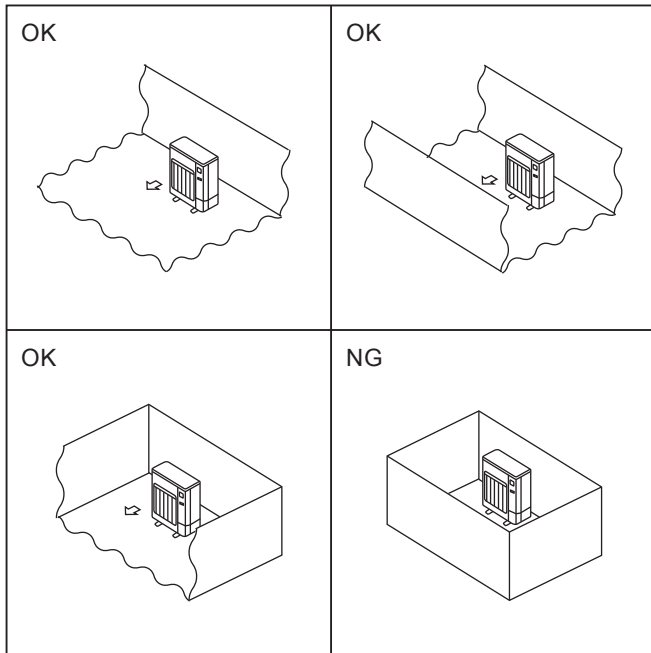

Fig. 1-2
- ⓪ Install outdoor units in a place where at least one of the four sides is open, and in a sufficiently large space without depressions. (Fig. 1-2)